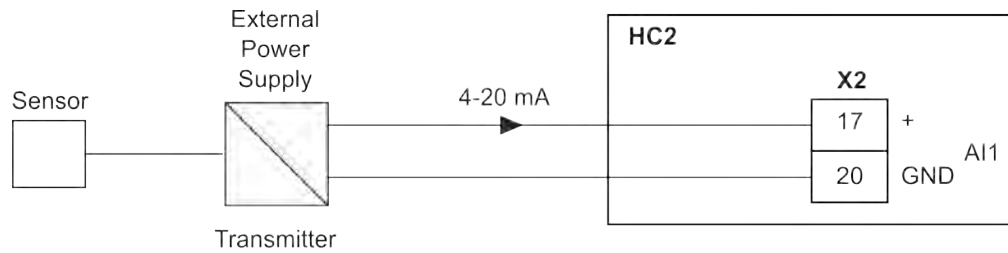
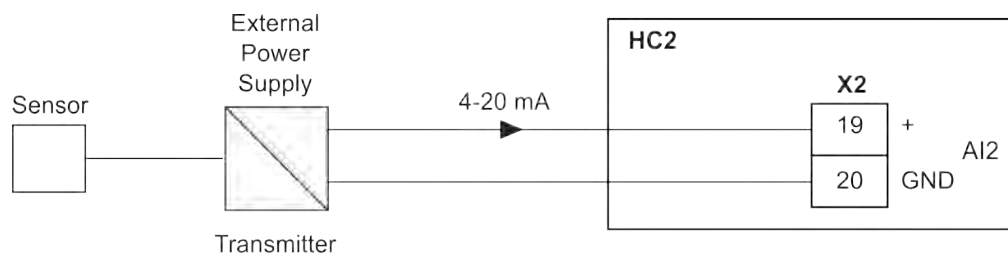

Fig. 23-3 Connection external 4-20 mA Signal to Analogue Input 1
Fig. 23-4 Connection external 4-20 mA Signal to Analogue Input 2
- If the mA signal of the level measurement is provided by an external transmitter (e.g. NivuMaster or electronic position sensor), connect the transmitter according to Fig. 23-3 or Fig. 23-4.